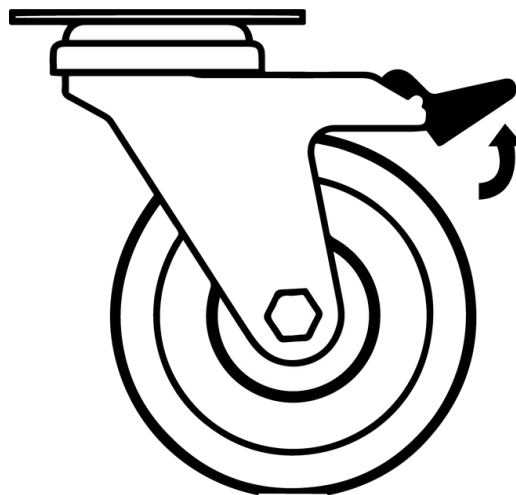

Fig 2. Castor Unlocked
- Ensure when placing the drying oven into place that the castors can be accessed so they can be locked (**Fig 3**) and unlocked (**Fig 2**). Please contact your supplier or Thermoline should there be any damage to the castors.